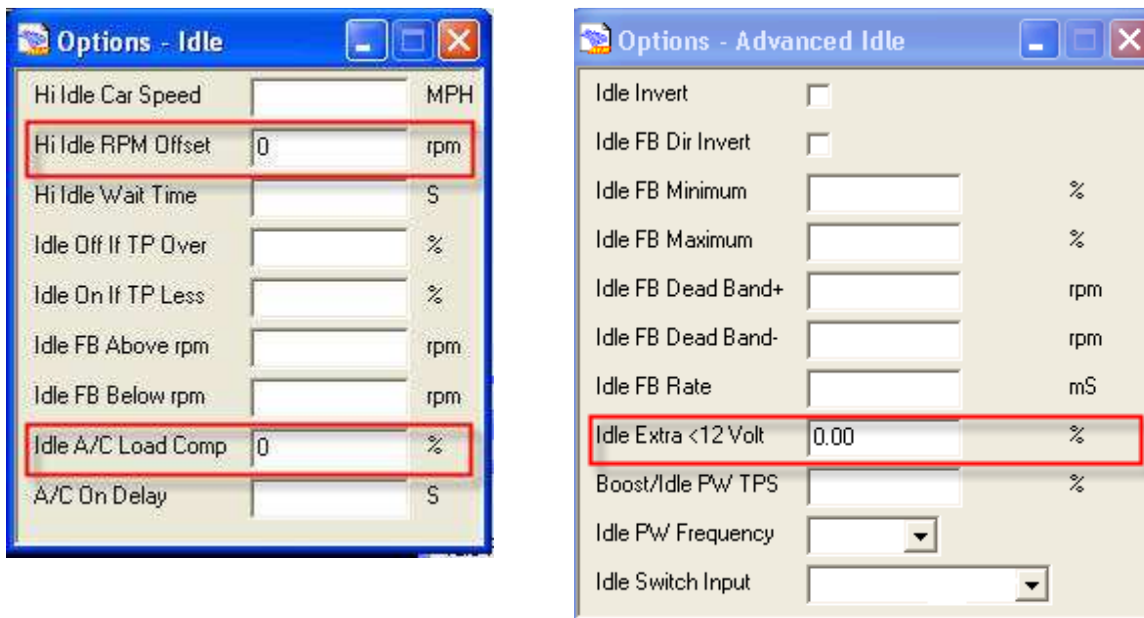

Figure 6 – Temporarily set *Idle A/C Load Comp*, *Hi Idle RPM Offset*, and *Idle Extra < 12 Volt* to zero
- Edit *Idle A/C Load Comp* and/or *Idle Extra <12 Volt Options*, as in *Figure 6*, to zero (0) percent.
- Verify that the EMS parameter Idle Position parameter is zero (0) percent.